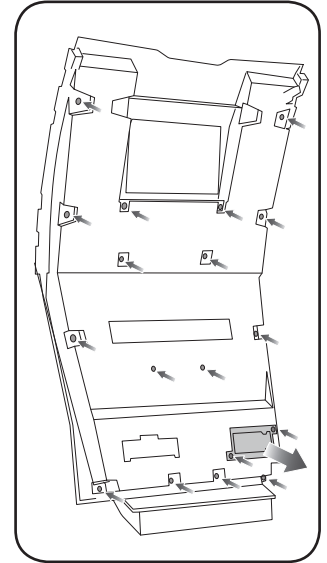

Fig. 2.2
2. Remove the eighteen T9 Torx screws securing the backplate. Remove the connector housing. (Fig. 2.2)